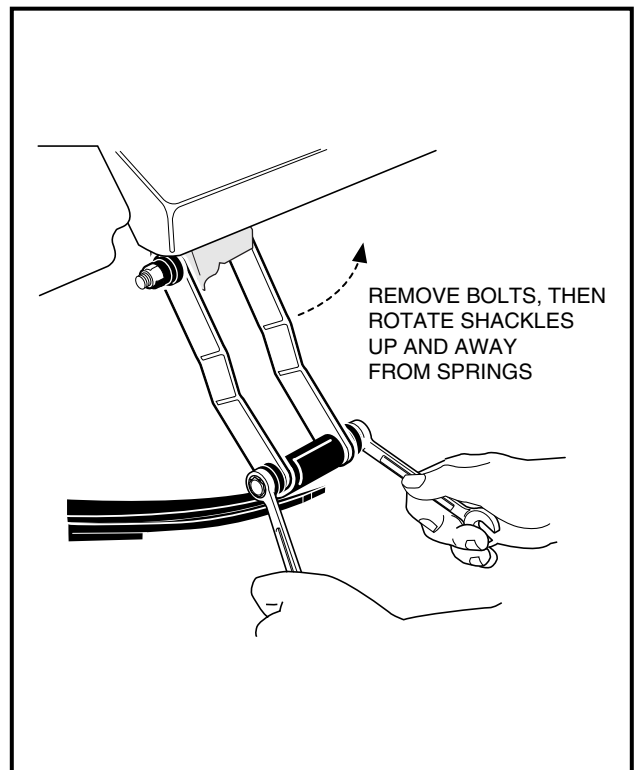

Figure 16-28 Rear Shackles
11. Remove the bolts that secure the leaf springs to the shackles (**Figure 16-28, Page 16-13**).